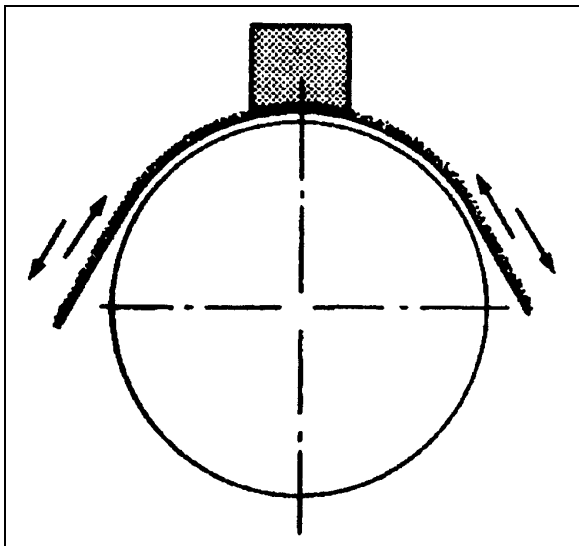
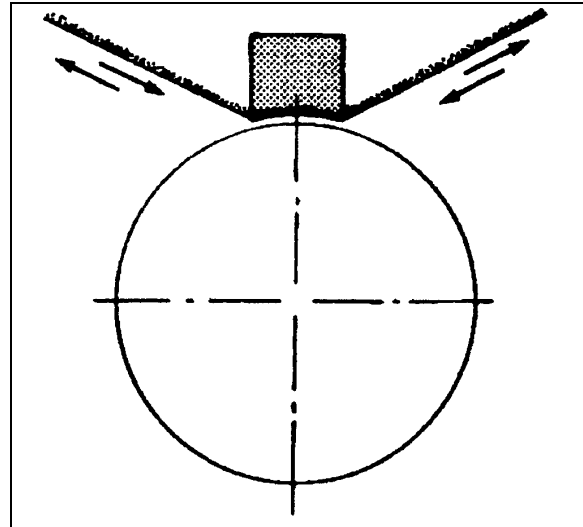

FIGURE 26: PROPER GRINDING TECHNIQUE 22317
FIGURE 27: IMPROPER GRINDING TECHNIQUE 22318
- a) Grinding with abrasive cloth medium grit (sandpaper) (grit 60) applied to a part of the commutator by hand. The new brushes installed in their brush holder and pressing against the rotor until complete grinding of the seating faces (Refer to figure 26). It is necessary to avoid raising the cloth under the brushes otherwise it would result, after grinding, to reduce and badly definite surfaces (Refer to figure 27).